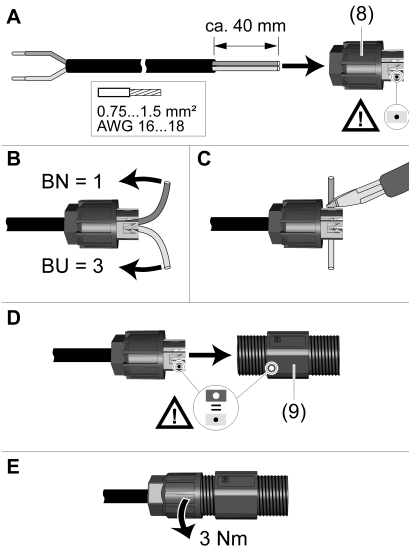

Figure 9: Connecting the supply line
- The connectors can be re-connected a maximum of 10 times. Since the contact is made by means of IDC technology, the single conductors that have already been contacted once must be cut off for each new plug-in process and re-threaded into the union nut. This process is identical with the connection of the supply line (Figure 9).